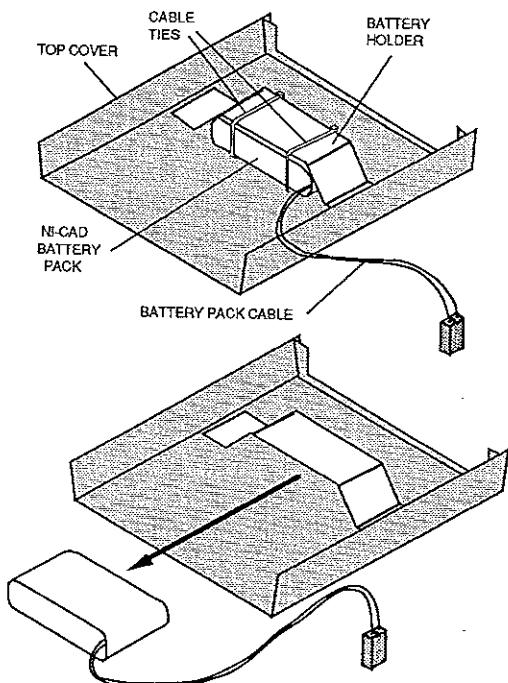

Figure 6-5. Battery Pack Replacement
- (3) Cut the battery holder cable ties and slide the battery pack out of the holder (see Figure 6-5).
- (4) Slide the new battery pack into the holder and secure it with the two new cable ties supplied with the replacement battery pack.